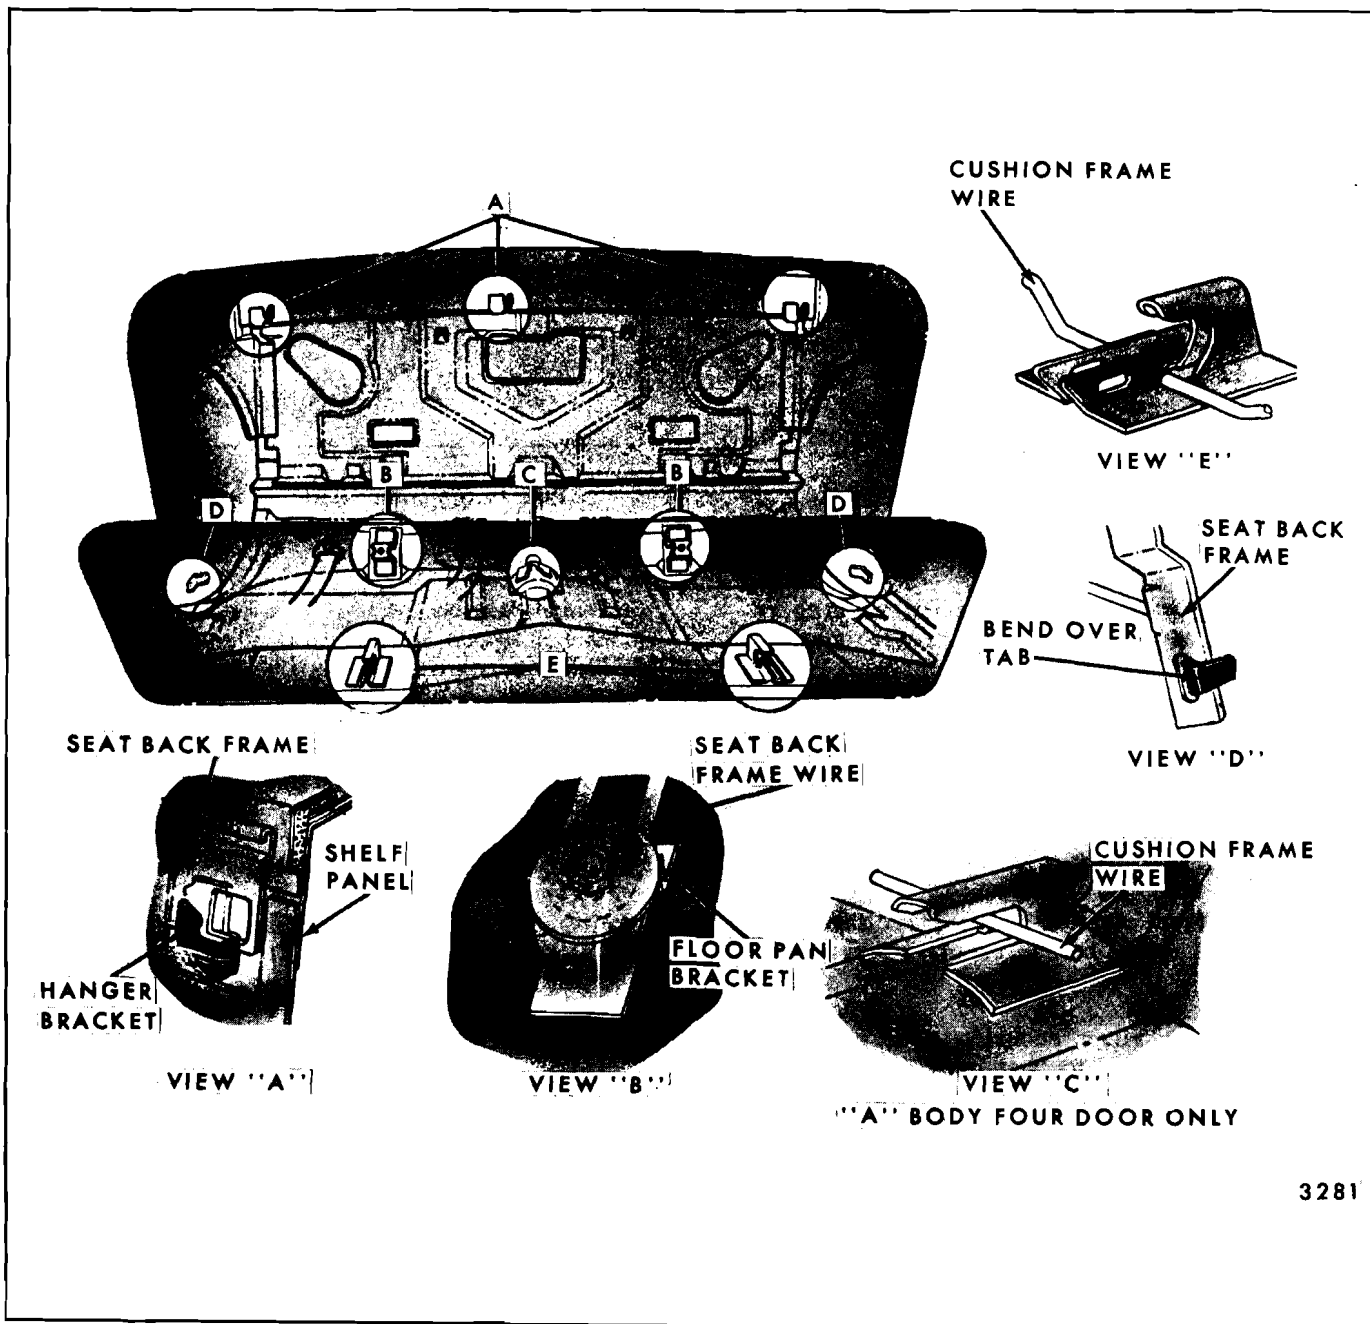

Fig. 15-58—Rear Seat Cushion and Back Installation - All Styles Except Station Wagons and Cadillac Limousine
1. Push lower forward edge of seat cushion rearward; then, lift upward and pull forward on seat cushion frame to disengage cushion frame wires from retainers on rear seat pan (Fig. 15-58).
NOTE: If difficulty is experienced in disengaging the front edge of the rear seat cushion from retainers on rear seat pan it may be necessary to kneel (on four-door styles) or stoop (on two-door styles) on the rear floor pan. Grasp lower edge of seat cushion at location of retainer on one side of seat; then, lean forward (towards seat cushion) using leg pressure against hands or arms, exert sufficient rearward pressure to disengage seat from retainers (Fig. 15-58).